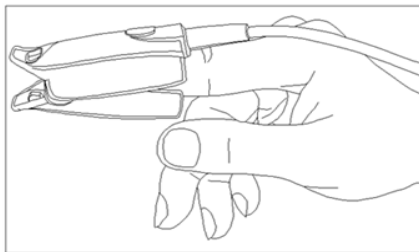

Figure 1 Finger Clip Sensor
2. For Adult Finger Clip SpO₂ Sensor, insert one finger (index finger is preferred, but middle or ring finger with proper nail length is possible as well) into the sensor according to the mark on the sensor clip, as shown in Figure 1.